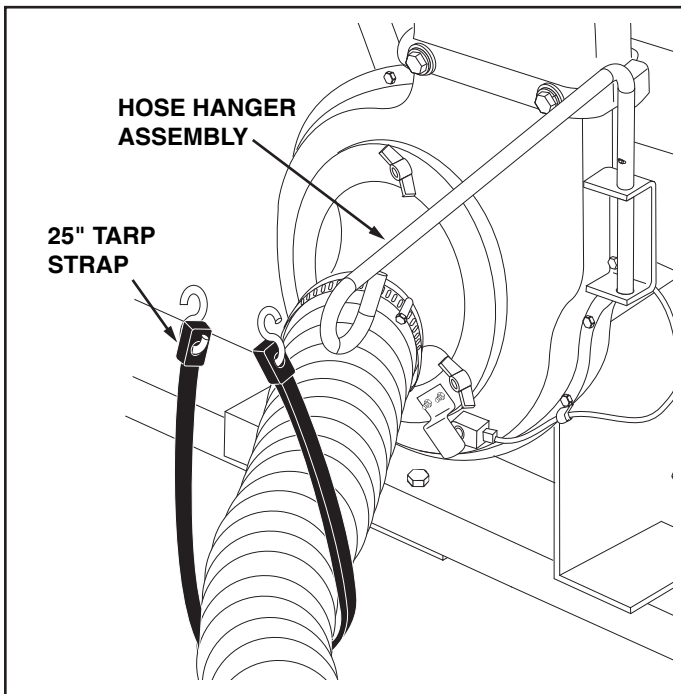

FIGURE 17
28. Loop the 25" tarp strap under the hose. Fasten the hooks to the hose hanger rod assembly. See figure 17.